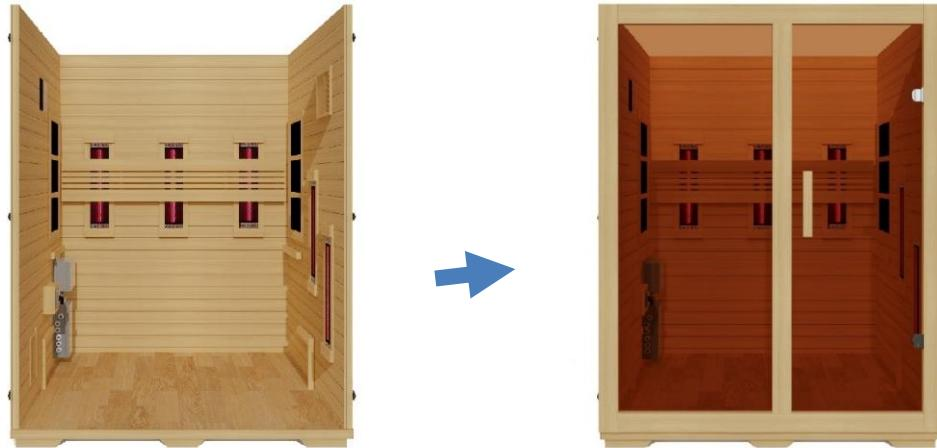

Figure 4
- a. Now it is time to install the FRONT WALL PANEL. Be very cautious when lifting the FRONT WALL PANEL with the glass door and glass stationary panels. Place the FRONT WALL PANEL up and onto the FLOOR PANEL next to the RIGHT SIDE WALL PANEL and LEFT SIDE WALL PANEL. Use the buckles to latch the wall panels together. (see Figure 4)